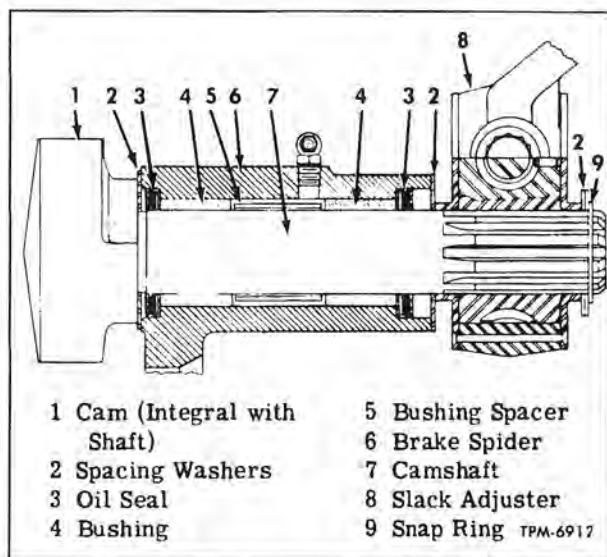

Figure 32—Front Brake Camshaft and Slack Adjuster Mounting
Front brake camshafts are mounted in bushings in brake spider (fig. 32). Lubrication fitting in spider provides a method for lubricating bushings. Lubricant is retained by oil seals which are pressed into brake spider.
4. To remove camshaft (fig. 32), disconnect brake chamber push rod yoke from slack adjuster. Remove snap ring and washer securing slack adjuster on camshaft and pull slack adjuster off end of shaft. Pull camshaft out of brake spider, stripping spacing washers off shaft as shaft is removed.
2. Install large spacing washer on camshaft and insert camshaft through bushings in spider (fig. 32), being careful not to damage seals.
5. Place spacing washers over inner end of camshaft (fig. 32), install slack adjuster on camshaft, and secure with washers and snap ring. Connect brake chamber push rod yoke to slack adjuster, using clevis pin and cotter pin. Back off slack adjuster worm shaft until shoe rollers rest on lowest points on cam.
Camshafts are mounted in bushings in brake spider. Mounting is similar to front camshaft mounting shown in figure 32. Lubrication fitting in spider lubricates bushings. Lubricant is retained by seals pressed into spider.
1. Unhook brake shoes as directed in "Rear Brake Shoe Removal" steps 1 and 2. Swing brake shoes away from cam. Rear camshaft mounting is similar to front mounting shown in figure 32.